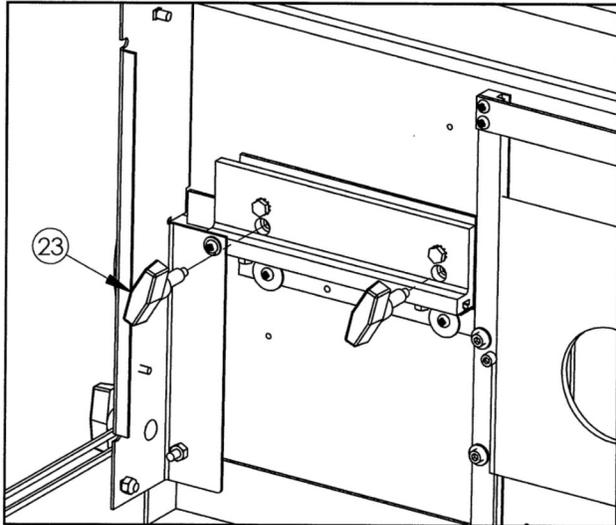

Figure 13. T-handle knobs
- Align the holes in the fence brackets with the holes on the table top. Secure the fence brackets to the top by inserting (4) T-handle knobs upward from the bottom of the table (Figure 13). Tighten the T-handle knobs while pushing the fence brackets forward towards the back ledge of the main table.